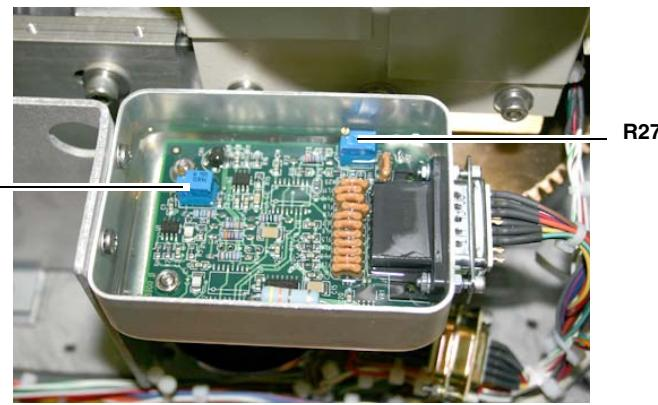

Figure 9-18 65D PreAmp CBA
3. Remove the four screws holding the pump base cover in place, and remove the cover to expose the PreAmp CBA (Figure 9-18, below).